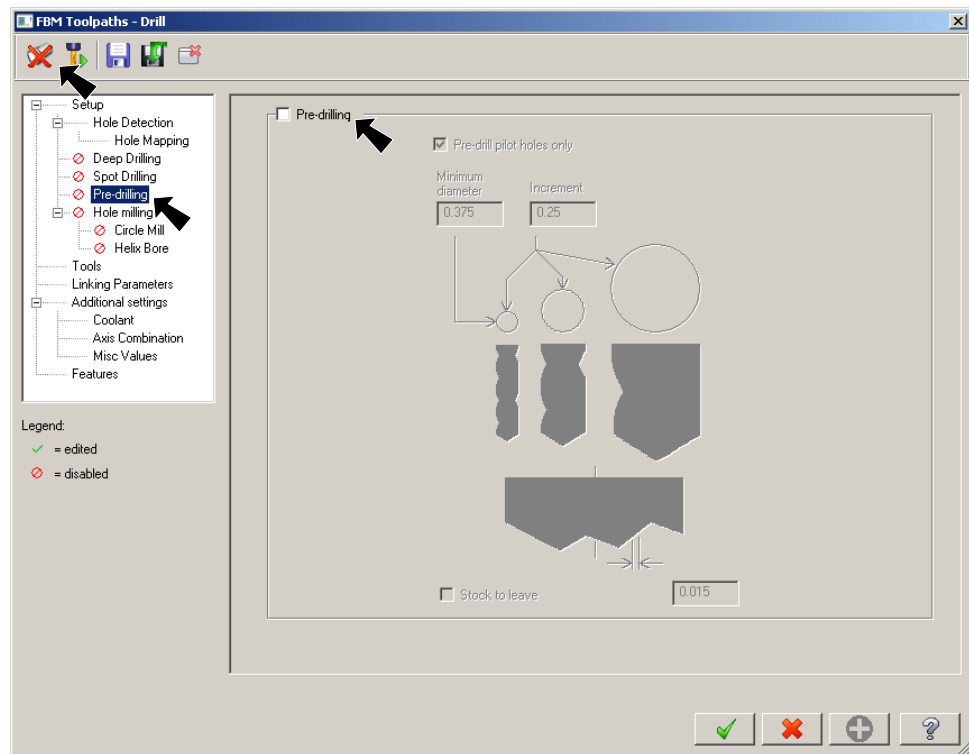

Fig. 68
Step 4. Select **Pre-drilling** from the tree control and uncheck **Pre-drilling** check box, **Fig. 68**.
Step 5. Click **Detect** button  at the top of the dialog box to find the holes, **Fig. 68**.